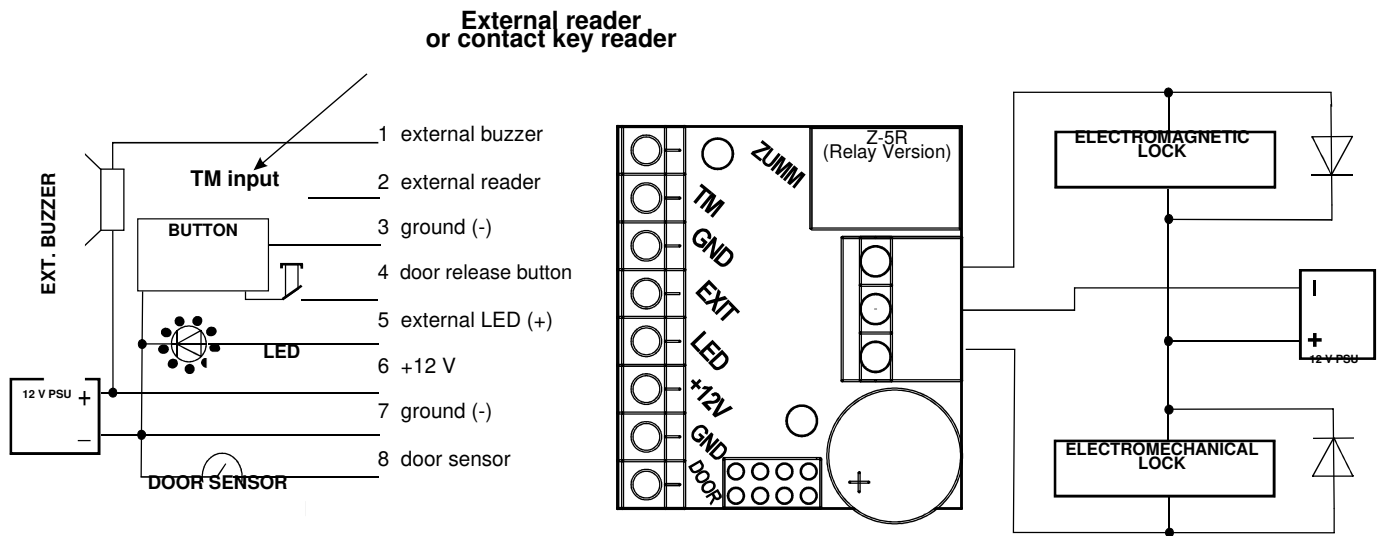

Figure 6. External-device connections.
Important! To protect the relay contacts from arcing when an inductive load such as an electromagnetic or electromechanical lock is connected, install the supplied flyback diode in parallel with the lock coil (see Figure 6).
4. If an inductive load is used (electromagnetic or electromechanical lock), install the flyback diode shown in Figure 6.